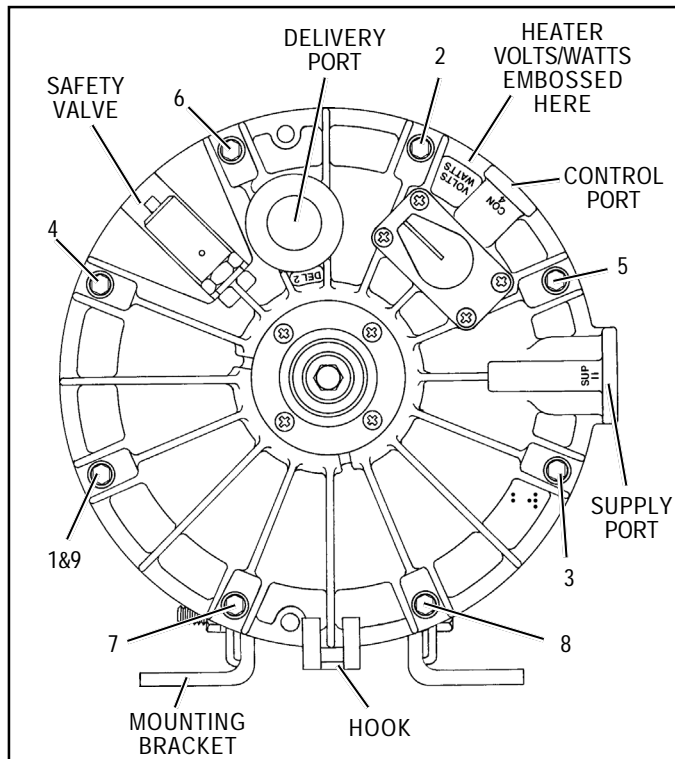

FIGURE 8 - AD-4™ AIR DRYER END COVER WITH TORQUE PATTERN
12. Install the outer sealing ring on the sealing plate. Place the outer housing over the desiccant cartridge (lining up marks made on the outer housing and end cover prior to disassembly) and retain with eight 3/8" hex head bolts, special washers, and lock nuts. Refer to Figure 8 for torque pattern. Torque to 270-385 inch pounds. **Note:** If
1. Note the required voltage and wattage for the AD-4™ air dryer heater by checking the end cover as shown in Figure 8.